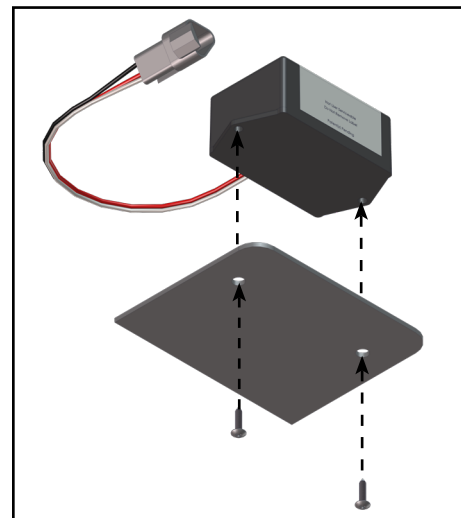

Fig.13
2. Attach the rear sensor to the mounting plate using two #12 X 1" hex head self-tapping screws (**Fig.13**).